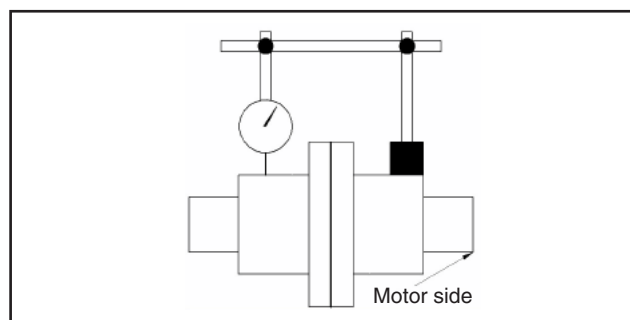

Figure 5a
1. Place a dial indicator on the coupling as shown in the picture (see **Figure 5a**).